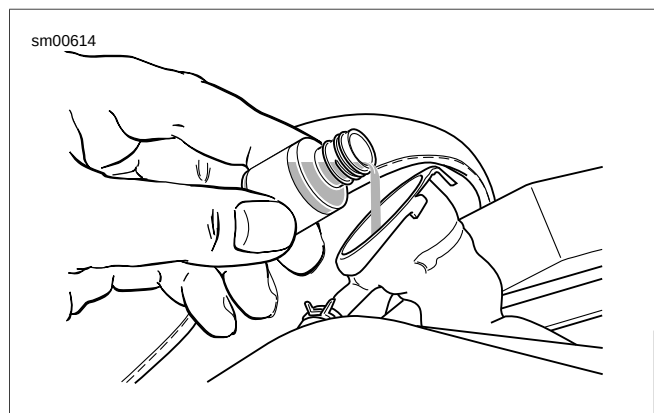

Figure 5-5. Pouring Dye into Filler Neck
4. See Figure 5-5. Pour COOLANT FLUORESCENT LEAK DETECTION DYE (Part No. HD-29545-6) into filler neck.